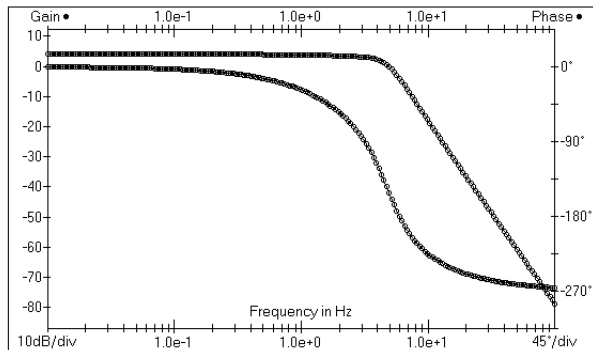

Figure 6.25 Bode plot for the third-order example
- Click the Bode Plot button to see the plot in Figure 6.25. Press the Ctrl key and click/drag the mouse to zoom any portion of the display. Click the Close button.